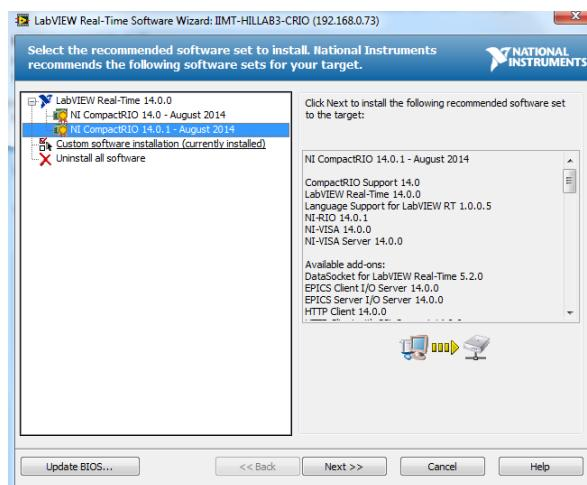

Figure 20: NI MAX - Software Update 1
4. A new window will now open. Choose the option that matches your LabVIEW/Veristand edition (in our case 14.0 or 14.0.1) under LabVIEW Real-Time 14.0.0 and click next. See Figure 20